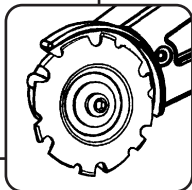

Fig.3
4. The Mini Grinder is packaged with a Mini Woodcarver Blade fitted, ready for use. Ensure that the **cutter clamping bolt** is tightened fully. (as shown in fig.3)